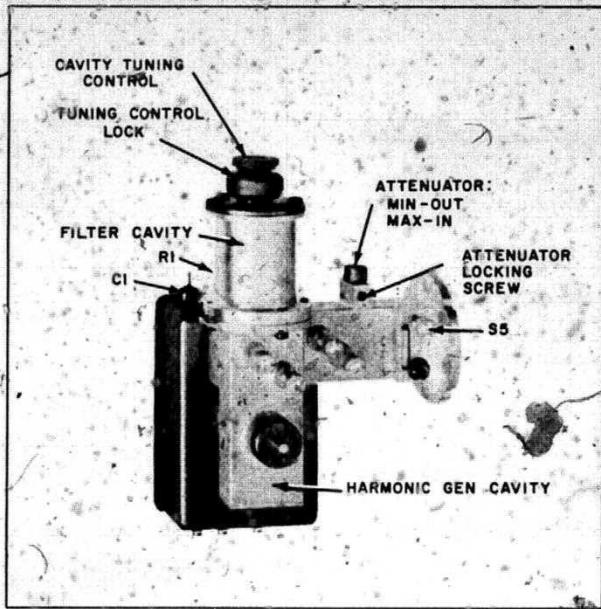

Figure 1. Harmonic Generator Assembly
2) Loosen microwave attenuator locking screw (Figure 1) on Harmonic Generator (near beam tube flange) and slide attenuator all the way out. This is minimum attenuation position.
4) Locate A20R27 on cesium oven controller A20 and adjust for maximum beam current. Tuning screw A4S5 (Figure 1) may require a slight adjustment at this time before a significant beam current can be measured while adjusting R27. **CAUTION** -- Less than 1/2 turn of A4S5 should be necessary.
- 5) Locate A4R1 on the harmonic generator assembly (see Figure 1).
- 8) Loosen attenuator locking screw (Figure 1), and slide attenuator in until the beam current is half way between the maximum and background levels.